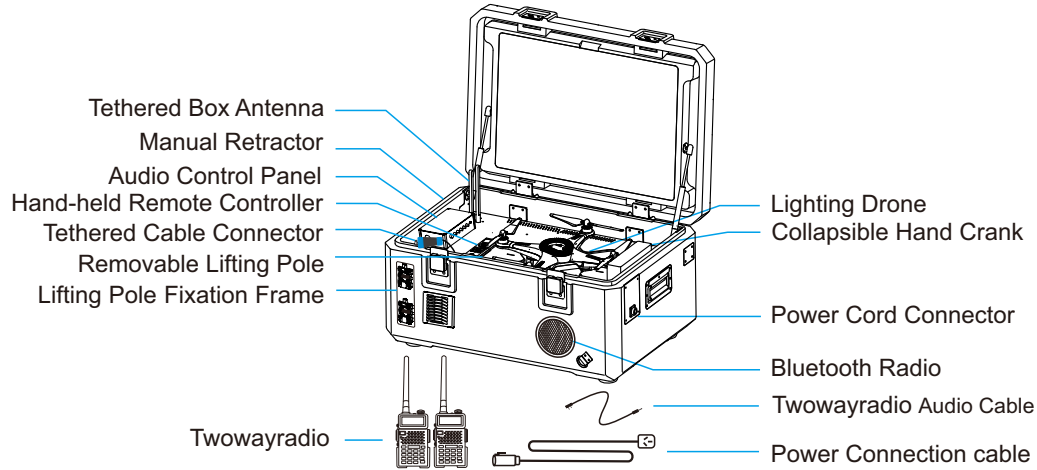

Figure 3: Schematic Diagram Of The Components Of The Tethered Box
a. Components Of The Tethered Box System (Refer To Figure 3)
- ① The Tethered Box: It mainly contains lighting drone, automatic retracting device, tethering cable, handheld remote controller, power connecting cable, removable lifting pole, lifting pole fixation frame, collapsible hand crank, audio control panel, twowayradio and other components.
- ② Automatic retractor: Used for automatic recovery of the tethered cable.
- ③ Tether Cable: Used for providing power to the drone and transmitting signals between the integrated box and the lighting drone.
- ④ Hand-held Remote Controller: Used for controlling the drone and lighting system.
- ⑤ Power Connection Cable: Used to connect the external power supply.
- ⑥ Removable Lifting Pole: Used for restraining the tethering cable.
- ⑦ Lifting Pole Fixation Frame: Used to fix the removable lifting pole.
- ⑧ Collapsible Hand Crank: For manual retraction.
- ⑨ Audio Control Panel: See P23 for function details.
- ⑩ Twowayradio: Used to connect the Tethered box can realize the function of long-distance shouting.